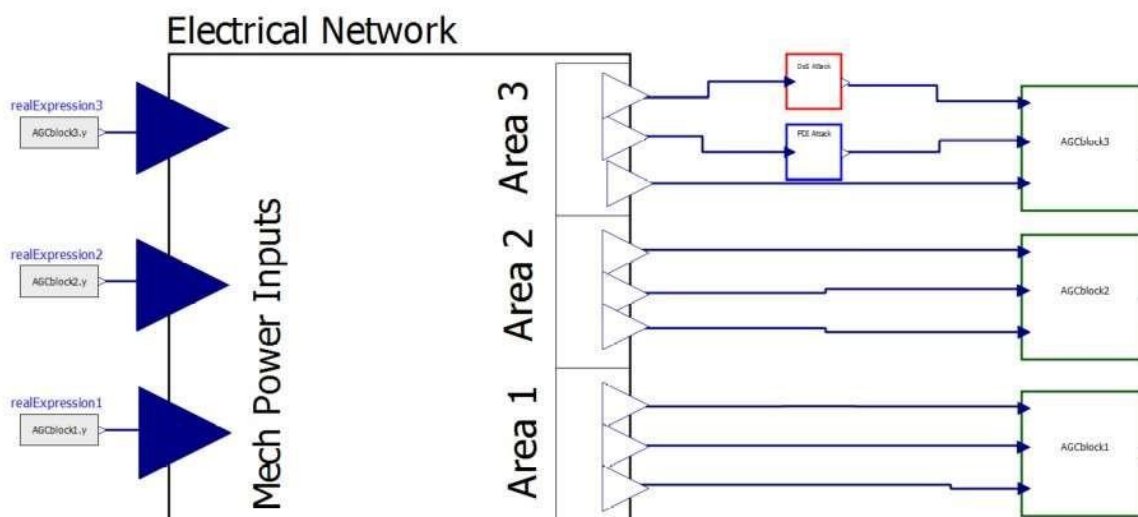

Figure 3: Complete network model with attack modules in OpenModelica.
equipped with AGCs (for instance, one can build up an aggregated model like ‘NetworkAndAGC’ in Figure 3 but without the attack modules)
*Step 5:* Export the figures of the aggregated models like Figure 3 under each attack scenario. Plot the figures of simulations results on frequency deviations of all three areas, under each attack scenario.